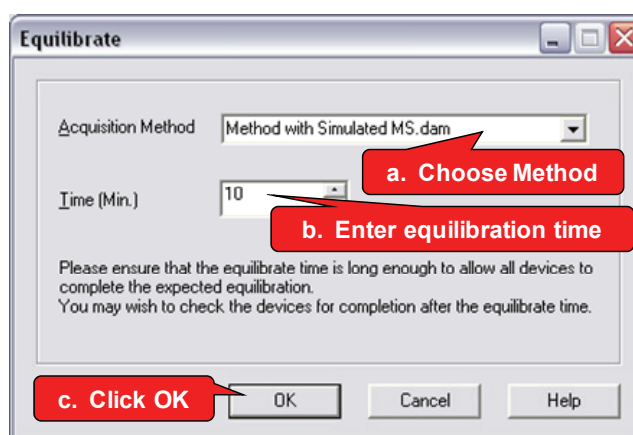

Fig. 12: The Equilibrate dialog allows selecting (a) an Acquisition Method for which the system will be equilibrated and (b) the duration of the equilibration.
3. The Equilibrate dialog opens, Fig. 12